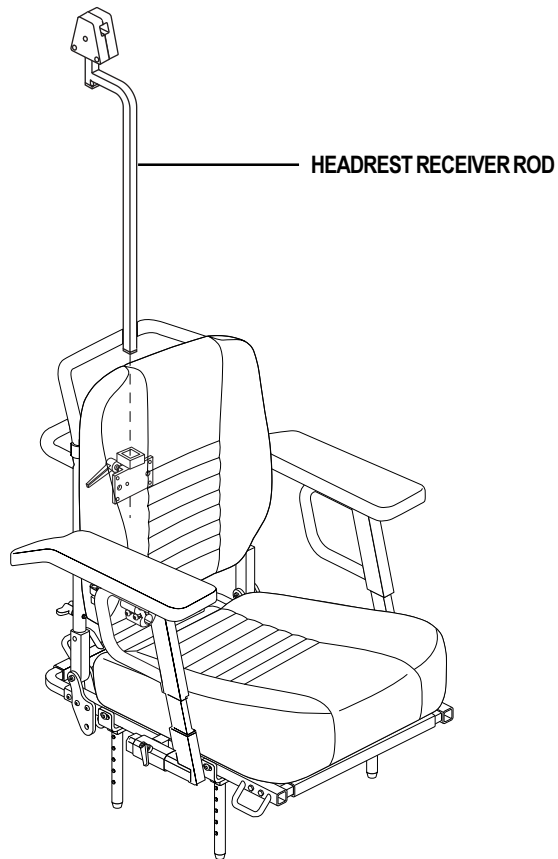

Figure 13a. Mounting the Headrest Receiver Rod
6. Slide the headrest receiver rod through the assembled headrest bracket and tighten the lever to secure the rod at the appropriate height. See figure 13a.